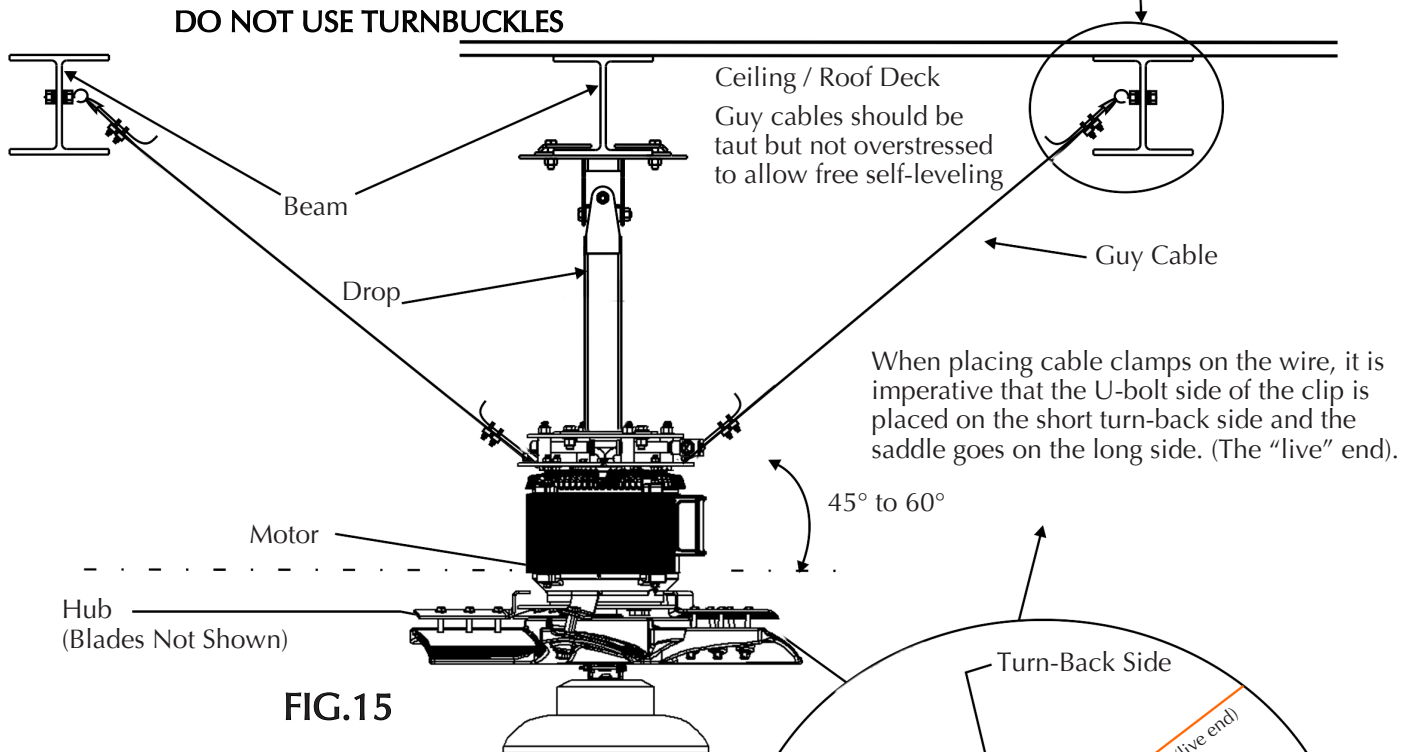

FIG.15
**STRUCTURAL NOTE:** Guy cables must be installed or fastened to a structural component of the building at the angle shown in Fig.15 and Fig.17.
2. Install eye bolt with nuts and washers in I-Beam as per Fig.15.